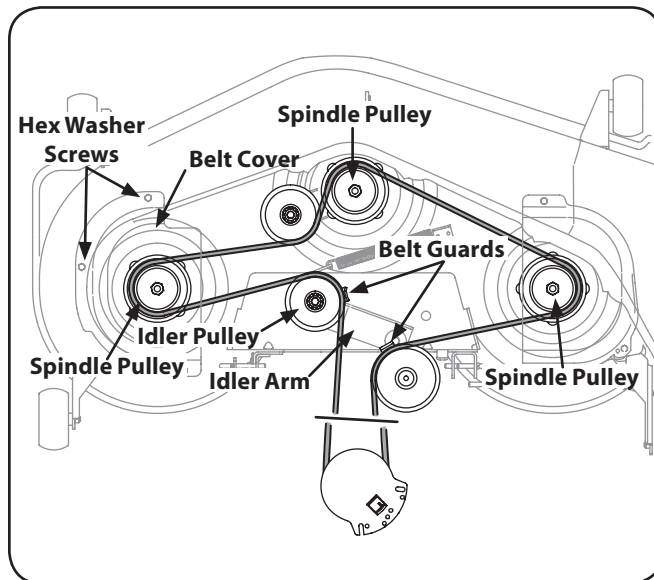

Figure 7-12
2. Remove the hex washer screws securing the belt covers to the deck. See Figure 7-12.
5. Install the new belt around the spindle pulleys as shown and reinstall the belt covers. See Figure 7-12.